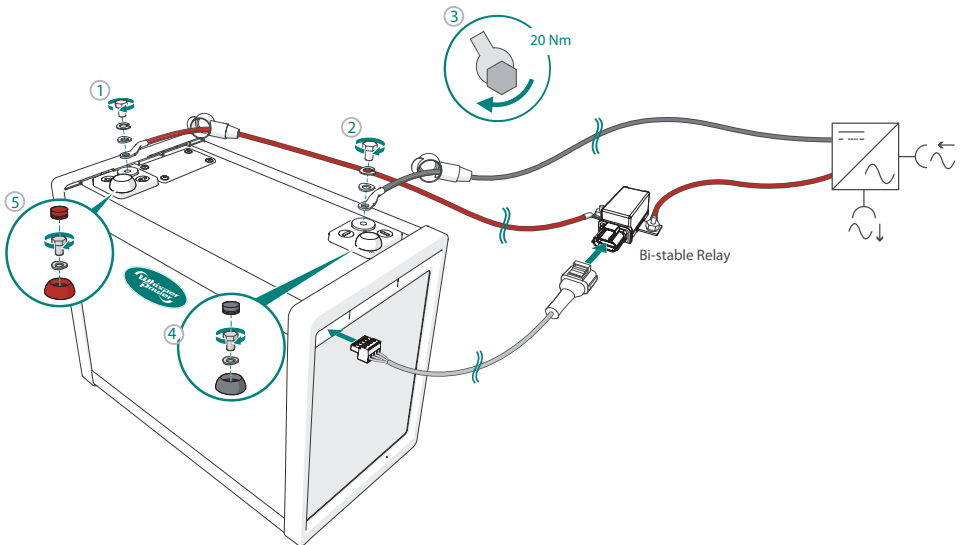

Figure 10. Connecting the battery to the load
2. Connect the + terminal of the battery to the - or A terminal of the relay (Figure 10).
4. Connect the - terminal of the battery. Do not connect the - terminal first as this may lead to short circuits (Figure 10).